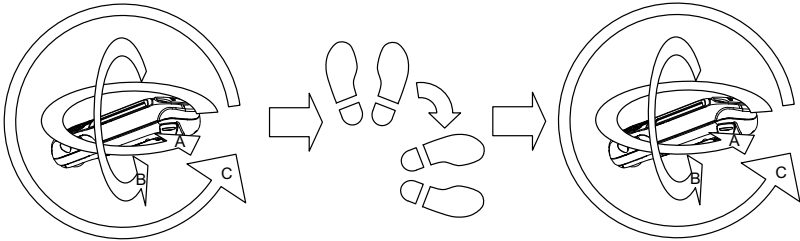

Figure 4-17. Calibrating the Compass
- Rotate the device 360 degrees in a horizontal direction for five or more seconds. See Figure 4-17.
11. Rotate the device 360 degrees in a roll direction for five or more seconds. See Figure 4-17.
12. Rotate the device 360 degrees in a pitch direction for five or more seconds. See Figure 4-17.